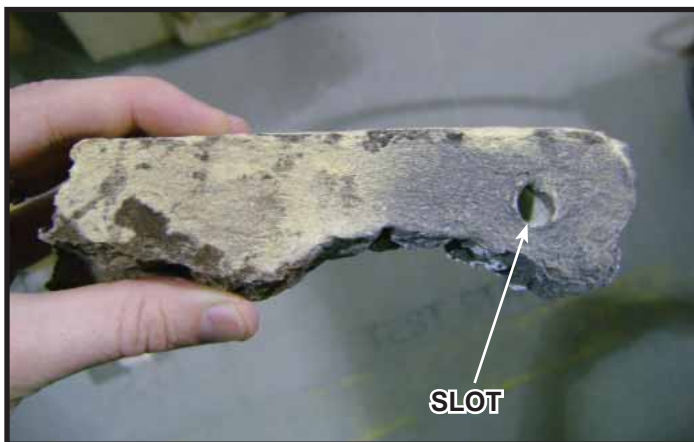

Figure 12. Log #4
**Log #4 (SRV2227-705):** Mate the slot on the bottom of the log, shown in Figure 12, with the log pin located on the burner surface. The notch on the right end of the log should mate with the grate bar. See Figure 11.